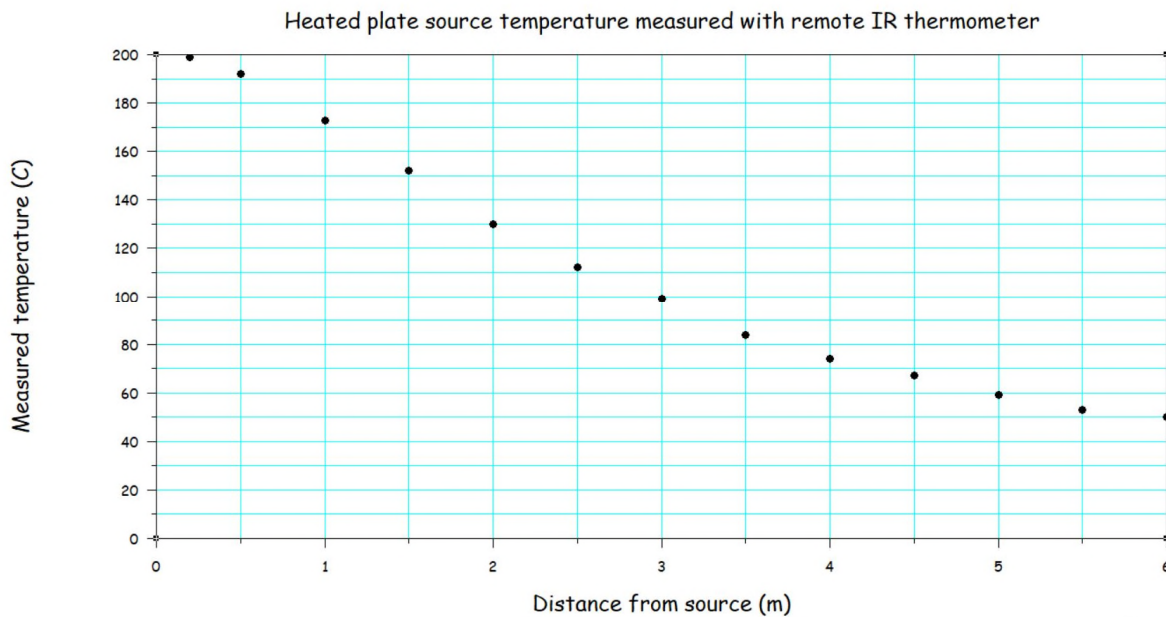

Figure 2 Measured variation of apparent source temperature with distance
(2) suggests that the received power contribution provided by the background is constant with increasing R and that the temperature differential between the source and the background should be as large as possible. It should be emphasised that this analysis is very approximate but it does seem to mimic common sense. As a preliminary check, the temperature of a flat metal plate held at 200°C was measured at a number of distances using an inexpensive “pistol” non contacting infra-red thermometer and the results are shown in Figure 2. Although these cannot be compared directly with the behaviour suggested by (2), similar data could be useful in giving a quantitative indication of the path-length capability of a particular source-receiver pair.